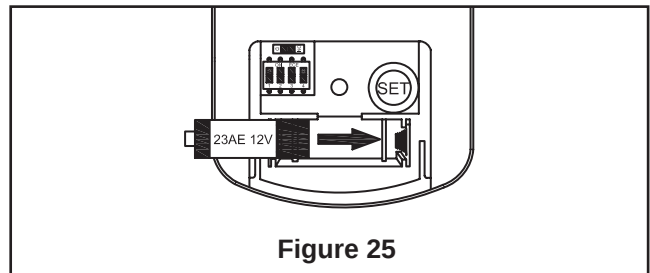

Figure 25
- ☐ 2. To make fan operational, install 23A/12V battery (included) in hand-held remote transmitter, with fan power off, arrange code switches to desired code setting. Then follow the remote code setting process. (If not used for long periods of time, remove battery to prevent damage to transmitter). Store the remote away from excessive heat or humidity (Figure 25).